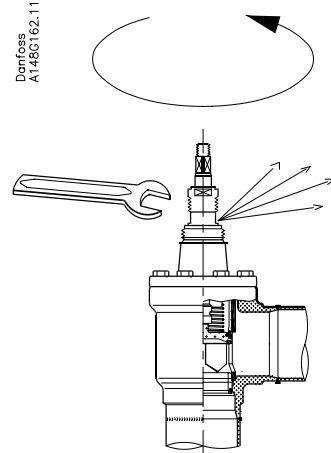

Fig. 5
**Pressure equalization (fig. 5)**